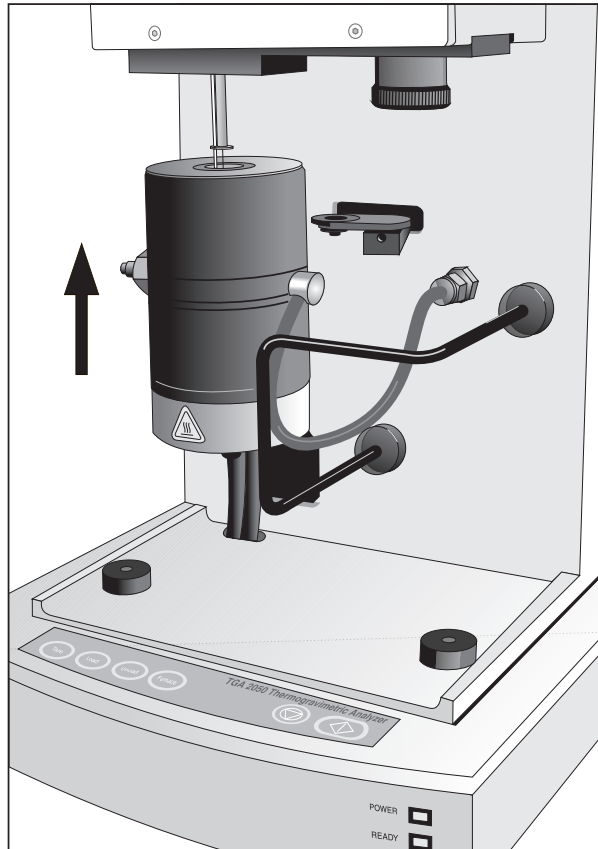

Figure 3.4
4. Press the FURNACE key to close the furnace by moving it up around the sample, until it is fully closed as shown in Figure 3.4.